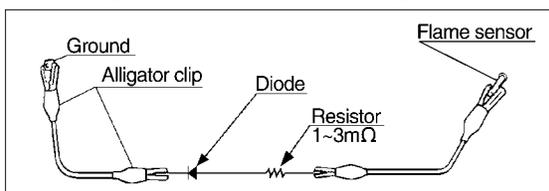

Figure 5-3
- Disconnect the igniter lead wire terminal (G) from the main circuit board.
- Connect equivalent flame circuit between flame sensor (at the burner) and ground (metal part of the heater). Use alligator clips at this time. See Figure 5-3.